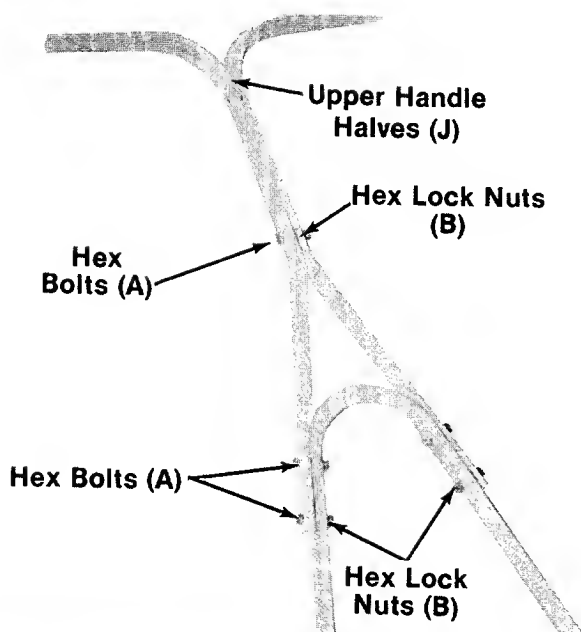
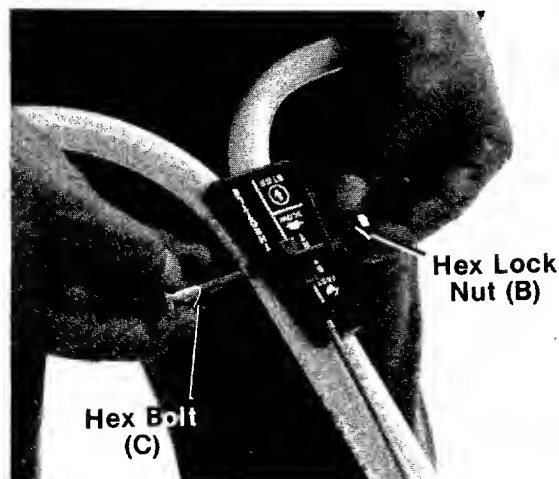

FIGURE 5.
FIGURE 6. Model 020 Only
5. Assemble the upper handle halves (J) to lower handle using five hex bolts (A) and lock nuts (B). Only tighten finger tight. See figure 5.
- 6A. **Model 011 Only**—Secure upper handle halves at the top hole using the sixth hex bolt (A).
- 6B. **Model 020 Only**—Place the tab on throttle control between the upper handle halves at top hole. Secure with hex bolt (C) and hex lock nut (B) provided in hardware pack. See figure 6.